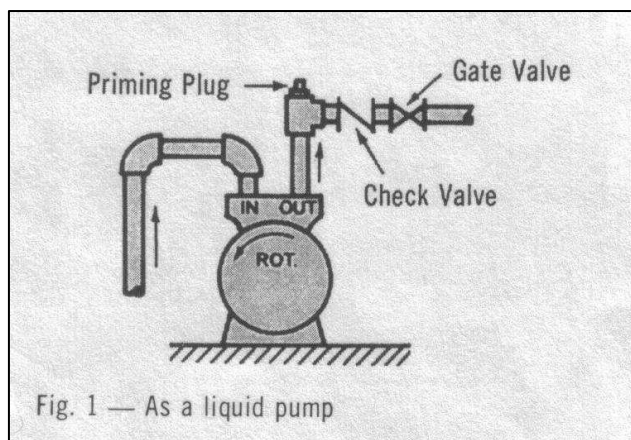

Fig. 1 — As a liquid pump
The pump should be mounted on a flat, horizontal surface. Connect piping as shown in Figure 1 below avoiding undue pipe strains. While the suction piping should be kept as short as practical with a minimum number of elbows, the pump will still give reliable performance even if there are high spots or air pockets in the pipe. The pipe should be free of leaks and the elevation of the pump above the water surface should not exceed twenty-five (25) feet. No foot valve or check valve are required in the suction pipe but it is desirable to have both check and gate valves in the discharge pipe. While this pump is intended primarily for clear liquids a small amount of fine solids in the liquid is acceptable. Wear will take place to accommodate the particle size and there will be a resulting reduction in performance but after the initial wear takes place, the pumping rate will remain almost unchanged. This is a normal break-in cycle.